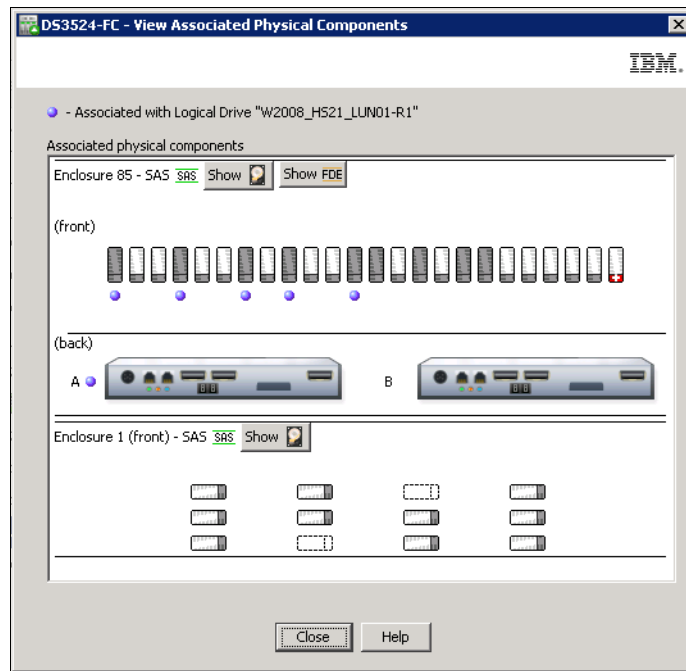
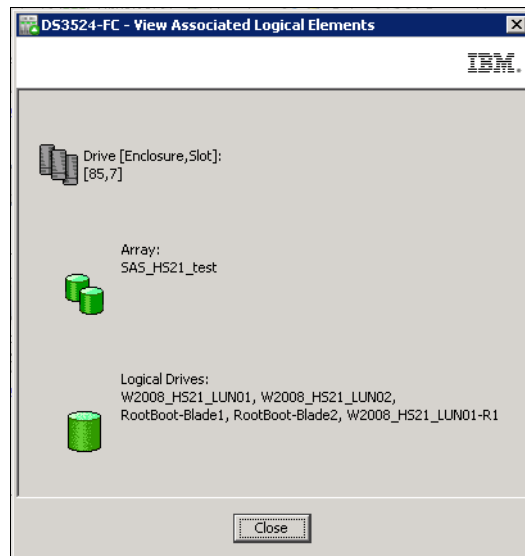

Figure 8-28 Associated Physical Components
Figure 8-29 Associated Logical Elements
If you select logical object in Logical tab or Mapping tab, clicking **View → Associated Physical Components** opens the window shown in Figure 8-28. Associated physical disk drives and their owning controller are marked by blue bullets.
Similarly, if you select a disk drive in the Physical tab, you can get related logical elements (Figure 8-29) if you click **View → Associated Logical Elements**.
**Note:** The same windows can be opened directly in Logical, Physical, and Mappings tabs. Right-click the object and select **View Associated Component**. The same windows like in Figure 8-28 on page 206 or Figure 8-29 display.